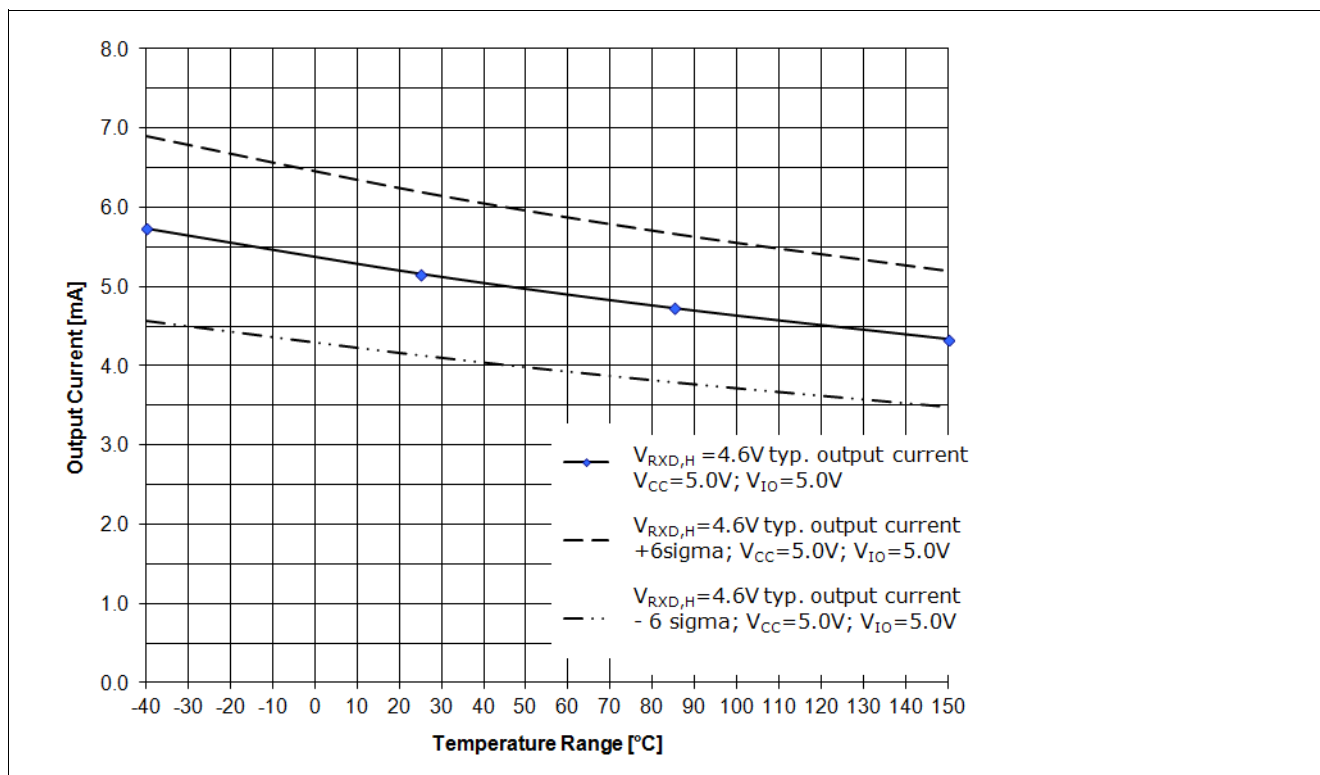
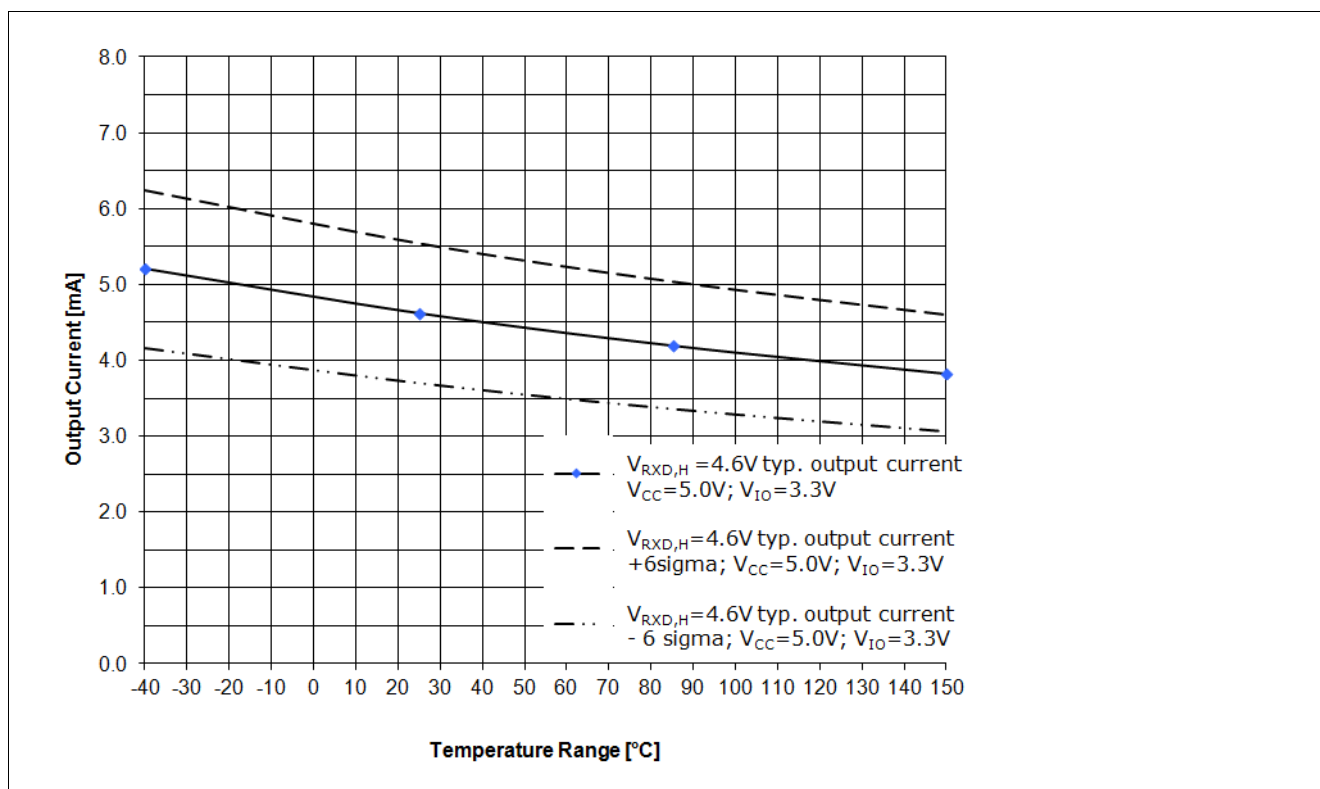

Figure 11 RxD Output driver capability for a logical "High" signal $V_{RxD,H} = 4.6V$, $V_{CC} = 5.0V$, $V_{IO} = 5.0V$ ¹⁾
Figure 12 RxD Output driver capability for a logical "High" signal $V_{RxD,H} = 4.6V$, $V_{CC} = 5.0V$, $V_{IO} = 3.3V$ ¹⁾
The diagram in **Figure 11** shows the output current capability of the RxD output pin depended on the chip temperature T_J at a V_{IO} power supply of 5.0 V. **Figure 12** shows the output current capability of the RxD output pin at a V_{IO} power supply of 3.3 V.
- The curve “ $V_{RxD,H} = 4.6$ V; **typ. output current**; $V_{CC} = 5.0$ V; $V_{IO} = 5.0$ V;” displays the typical output current at the RxD output pin of the TLE8250GVIO (see **Figure 11**).
- The curve “ $V_{RxD,H} = 4.6$ V; **typ. output current + 6 sigma**; $V_{CC} = 5.0$ V; $V_{IO} = 5.0$ V;” displays the expected maximum value of the output current at the RxD output pin (see **Figure 11**).
- The curve “ $V_{RxD,H} = 4.6$ V; **typ. output current - 6 sigma**; $V_{CC} = 5.0$ V; $V_{IO} = 5.0$ V;” displays the expected minimum value of the output current at the RxD output pin (see **Figure 11**).
- The curve “ $V_{RxD,H} = 4.6$ V; **typ. output current**; $V_{CC} = 5.0$ V; $V_{IO} = 3.3$ V;” displays the typical output current at the RxD output pin of the TLE8250GVIO (see **Figure 12**).
- The curve “ $V_{RxD,H} = 4.6$ V; **typ. output current + 6 sigma**; $V_{CC} = 5.0$ V; $V_{IO} = 3.3$ V;” displays the expected maximum value of the output current at the RxD output pin (see **Figure 12**).
- The curve “ $V_{RxD,H} = 4.6$ V; **typ. output current - 6 sigma**; $V_{CC} = 5.0$ V; $V_{IO} = 3.3$ V;” displays the expected minimum value of the output current at the RxD output pin (see **Figure 12**).